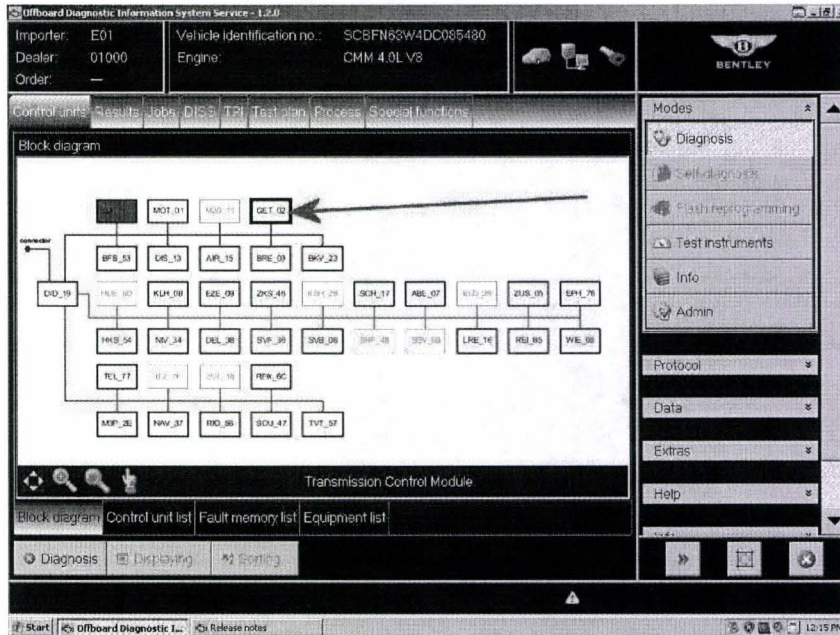

Figure 10
- Referring to Figure 10 - Select Transmission Control Module - GET_02